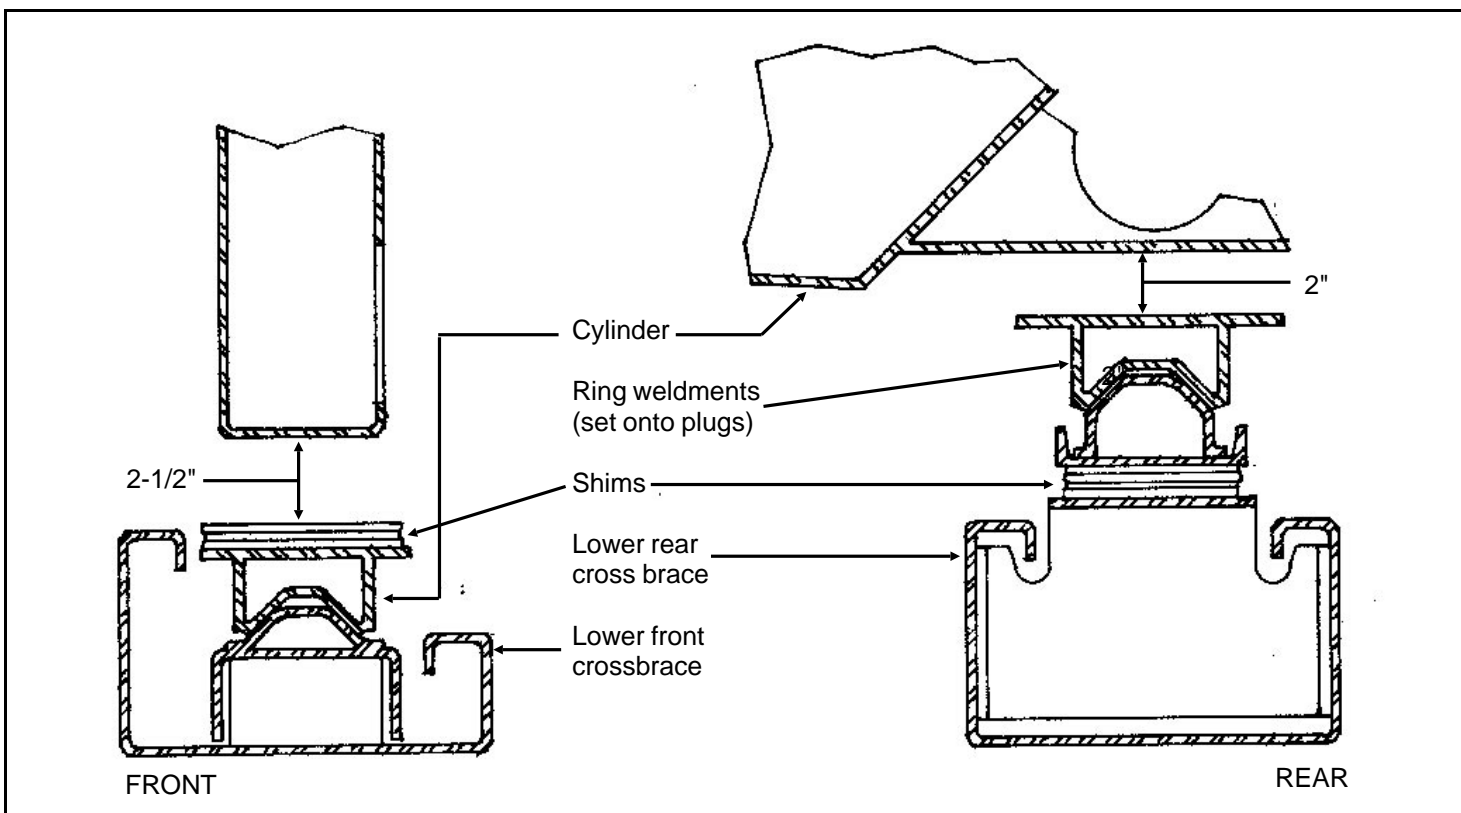

FIGURE 10 (MSSM0208AE)
To adjust push-down travel, see FIGURE 10 and proceed as follows:
3. Remove or add shims where shown in FIGURES 10 and 11 to achieve the gaps shown. If the gap at any location is less than that specified, without shims, the shell must then be raised in the frame, using the procedures previously described.